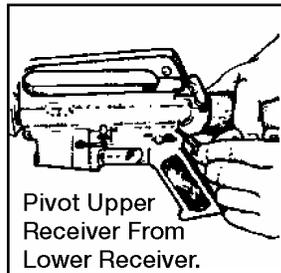

Figure 071-311-2025-6. Pushing the takedown pin
- e. Push the receiver pivot pin (figure 071-311-2025-7).